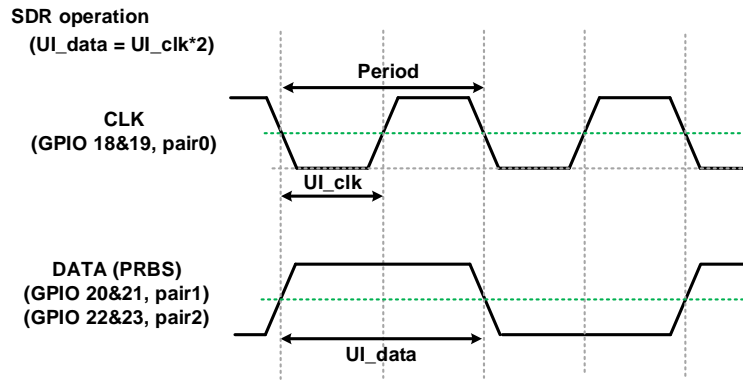

Figure 5. SDR Data and Clock Rates
4. SDR operation (see Figure 5):